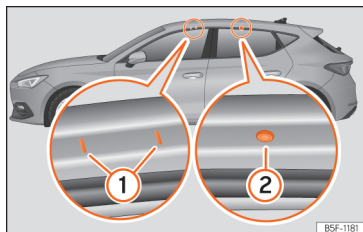

Fig. 202 Mounting points for the roof bars for the roof rack (Leon).
Valid for Leon: The front and rear attachment points (1) and (2) are only visible when the doors are open »» Fig. 202.